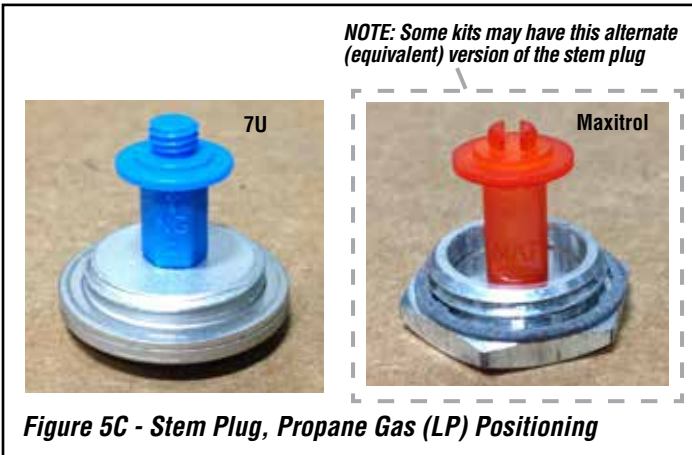

Figure 5C - Stem Plug, Propane Gas (LP) Positioning
Step 5C. *Figure 5C* shows the stem plug positioning for Propane Gas (LP).